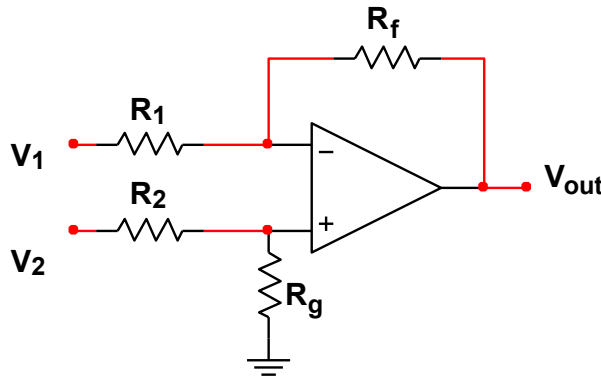

Figure P.4 – Difference Amplifier
- Using **Table 1** and **Figure P.4**, design a **DC Difference Amplifier** that has the following specifications:
- Closed Loop Voltage Gain (K) =  $K_1 = K_2 = 2$**